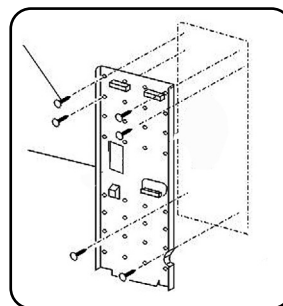

Figure 4
- Offer up the separate backplate to the wall and mark the position of the four holes and drill to a suitable depth – see figure 4.